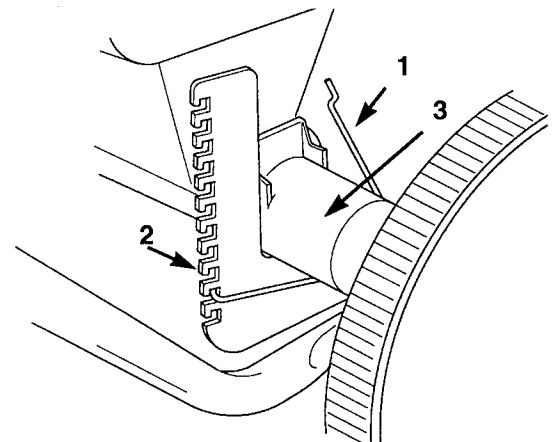

Figure 78
- B.** From the front side of the spreader, place the right-side, hold-down spring under the spreader's axle support so the U-shaped hook of the hold-down spring hooks into the lowest possible notch on the bracket (Fig. 78).